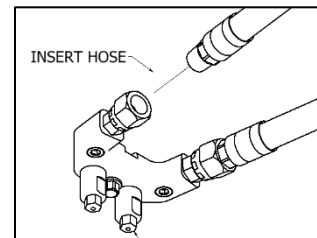

Figure 5: Coupling Block Hose Installation
2. Install hose to the **Coupling Block** (see Figure 5).